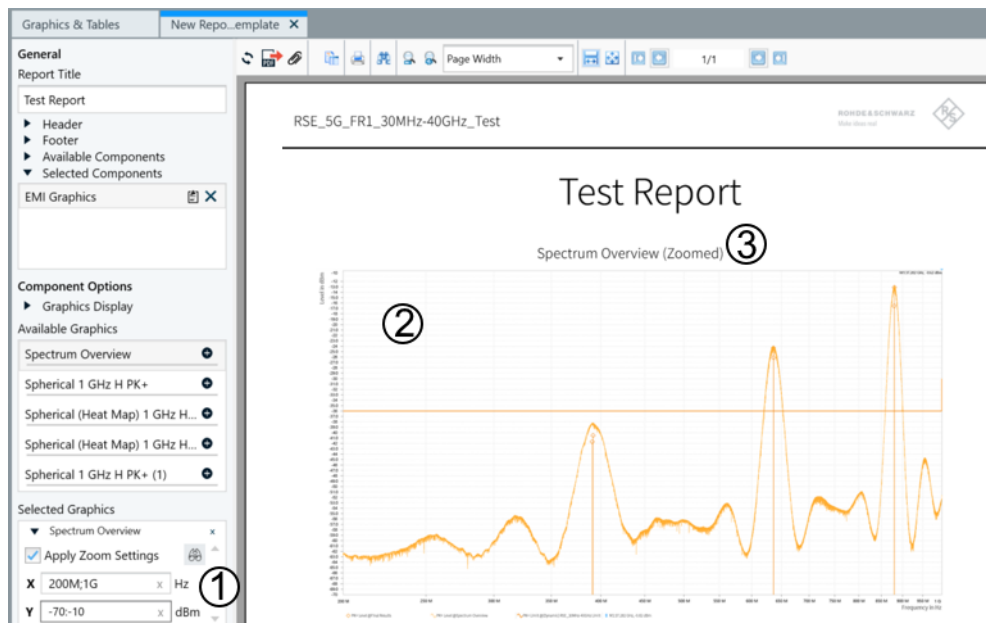

Figure 4-124: A test report with a chart that has correct zoom parameters configured
6. To let your settings take effect for the report, enable the "Apply Zoom Settings" checkbox (1 in Figure 4-124).